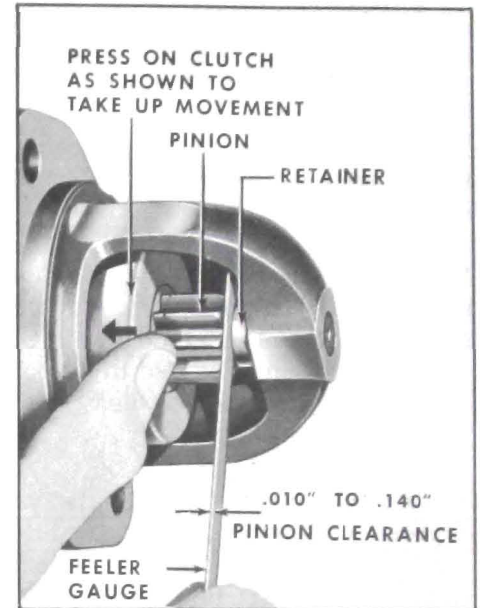

Figure 10-34—Checking Pinion Clearance
2. After energizing the solenoid, push the pinion away from the stop retainer as far as possible and use feeler gauge to check clearance between pinion and retainer. See Figure 10-34.